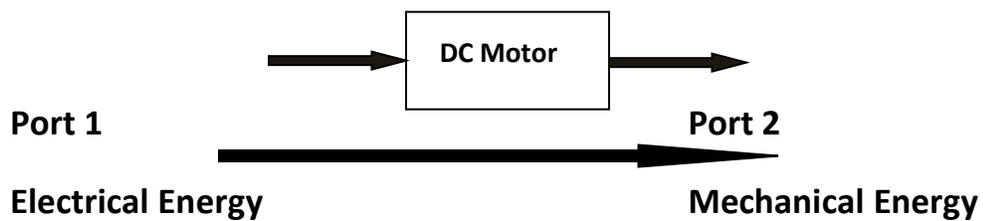

Fig. 4.1
- A DC motor is a device that converts dc electrical energy into mechanical energy. As shown in above fig. 4.1